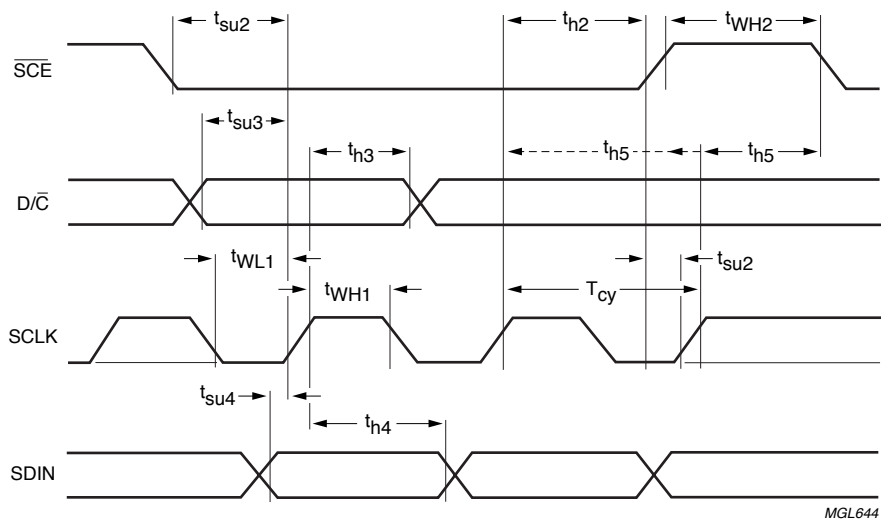

Fig.15 Serial interface timing.
- t_{h5} is the time from the previous SCLK positive edge (irrespective of the state of \overline{SCE}) to the negative edge of \overline{SCE} (see Fig.15).